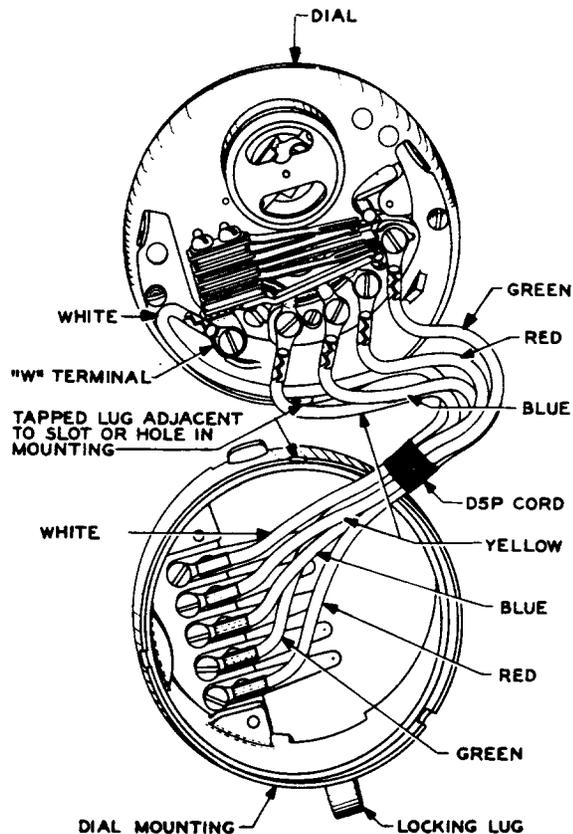

Fig. 5— Method of Cording Dial Mountings and Dials Having Their W Terminal As Part of the Contact Spring Assembly, Using DSP Cords
5.01 *Dials Having the W Terminal as Part of the Contact Spring Assembly (See Fig. 5):*
tracers in the leads in certain type cords) with the lettered abbreviations on the dial adapter; Y indicating yellow or yellow tracer, B indicating blue or blue tracer, etc. Run the white lead or the lead with the white tracer under the other leads to prevent snagging the lead on the contact springs of the dial. Where the No. 765 cord is used, run the white lead inside of the V-shaped embossing in the dial adapter. Angle the leads about as shown in Fig. 5 or 6, depending on the type of dial cord used. Set the cord tips so that the leads are approximately parallel and do not cross each other. Tighten the cord tip mounting screws firmly.
5.04 Place the dial mounting in front of the dial, as shown in Fig. 5, so that the tapped lug in the dial adapter nearest the Y terminal is adjacent to the slot or hole in the dial mounting which is about opposite the locking lug. Cord the dial mounting as shown in Fig. 5, connecting the leads to their proper terminals, matching
5.05 Dials Having D5P Cords: After the cord has been firmly connected to the dial and dial mounting and with the dial and dial mounting placed adjacent to each other, as described in 5.04 and illustrated in Fig. 5, fold the dial mounting over the dial, using the tapped lug in the adapter nearest the Y terminal of the dial as a pivot. While doing this, position the coiled part of the leads, particularly the white and yellow leads, so that they will not be clamped against the dial by the dial mounting. When the dial and dial mounting are assembled in this way the individual leads of the cord should form a spiral which clears the contact springs of the dial. Be sure that the cord tips do not touch each other or the dial and dial mounting.